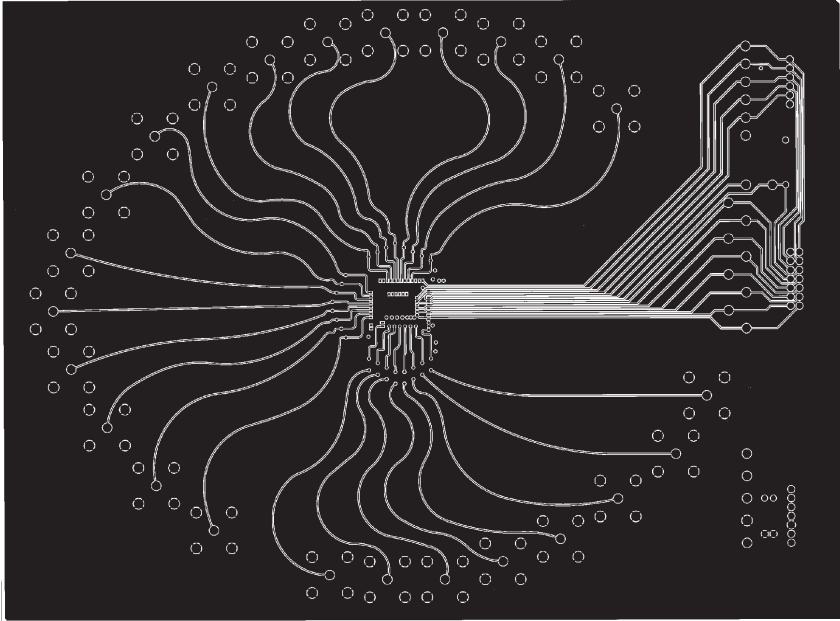

Figure 12. Board Layout (Signal Layer)
- Signal Routing Layer—Figure 12
The board has 24 BNC type connectors: 16 inputs and 8 outputs. The connectors are arranged in a crescent around the device. As can be seen from Figure 12, this results in all 16 input signal traces and all eight signal output traces having the same length. This is useful in tests such as All-Hostile Crosstalk where the phase relationship and delay between signals needs to be maintained from input to output.